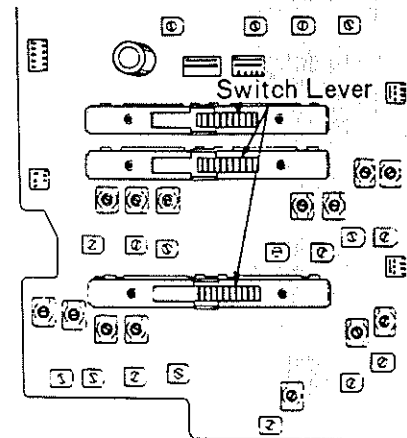

Fig. 22
2. Set the switch lever at the position, as shown in fig. 22.